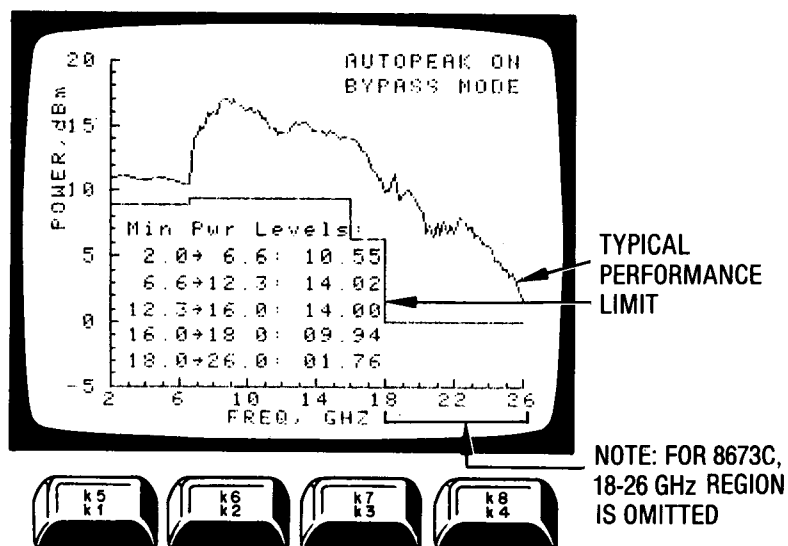

Figure 5-26. Maximum Power for 8673D
15. The maximum available unlevelled power will be measured and plotted as in Figure 5-26. If maximum power is lower than the typical specs shown on the graph, then refer to Section VIII, BD5 for troubleshooting.